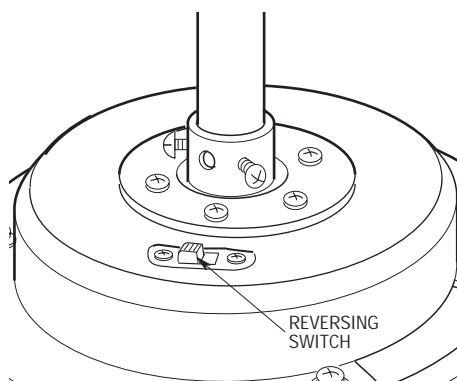

Figure 16
- 6. If airflow is desired in the opposite direction, turn the fan off and wait for the blades to stop turning. Then slide the reversing switch (on the motor and upper housing assembly) to the opposite position (Figure 16) and turn the fan on again. The blades will turn in the opposite direction and reverse the airflow.